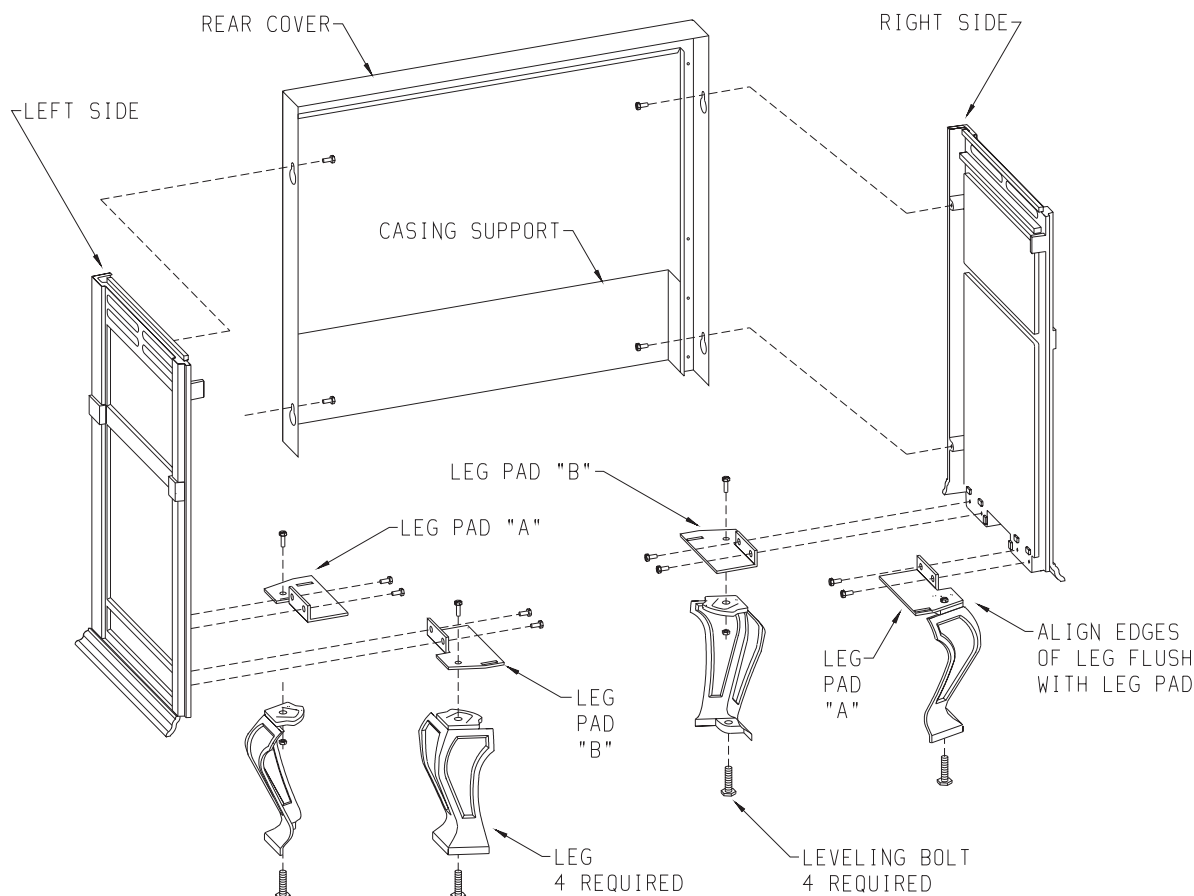

Figure 7
(Figures 7, 8, 9, 10, 11, 12 and 13)
- A. Attaching legs to the sides (Figure 7).
3. Refer to Figure 7, the leg pads will have the letter "A" and "B" stamped into the metal. Place leg pad "A" and leg pad "B" at the bottom of each casting side. Leg pad "A" attaches to the front of the casting side, right and to the rear of the casting side, left. Leg pad "B" attaches to the rear of the casting side, right and to the front of the casting side, left. Position the 3/4" flange on the leg pad against the (2) locator dimples on the casting side. The 3/4" flange must be facing upward, toward the top louver openings on the casting side. Attach the two **rear** leg pads to the casting sides with (2) 3/8" bolts. Attach but do not completely tighten the two **front** leg pads to the casting sides with (2) 3/8" bolts. **Attention:** The front leg pads can be adjusted to provide a snug fit between the casting front and the casting sides.
4. Attach (4) leveling bolts to the bottom of the (4) legs.
5. Align the 3/8" hole at the top of the leg with the 3/8" hole in the leg pad. **Attention:** For proper positioning of the leg to the leg pad the (2) 1-1/2" top edges of the leg must be placed flush and parallel to the (2) edges on the leg pad. Attach leg to leg pad by inserting (1) 1" bolt through the leg pad and into the leg, secure bolt with 1/4" nut.
6. Insert (2) 3/8" bolts into the (2) holes on the edges of the casting sides. The bolts should only be threaded half-way into the holes in order to allow for clearance when the casting back is attached to the casting sides.